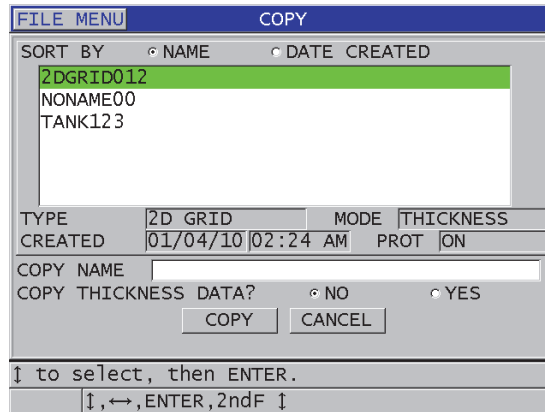

Figure 11-17 Copying a file
3. In the **COPY** screen (see Figure 11-17 on page 204):